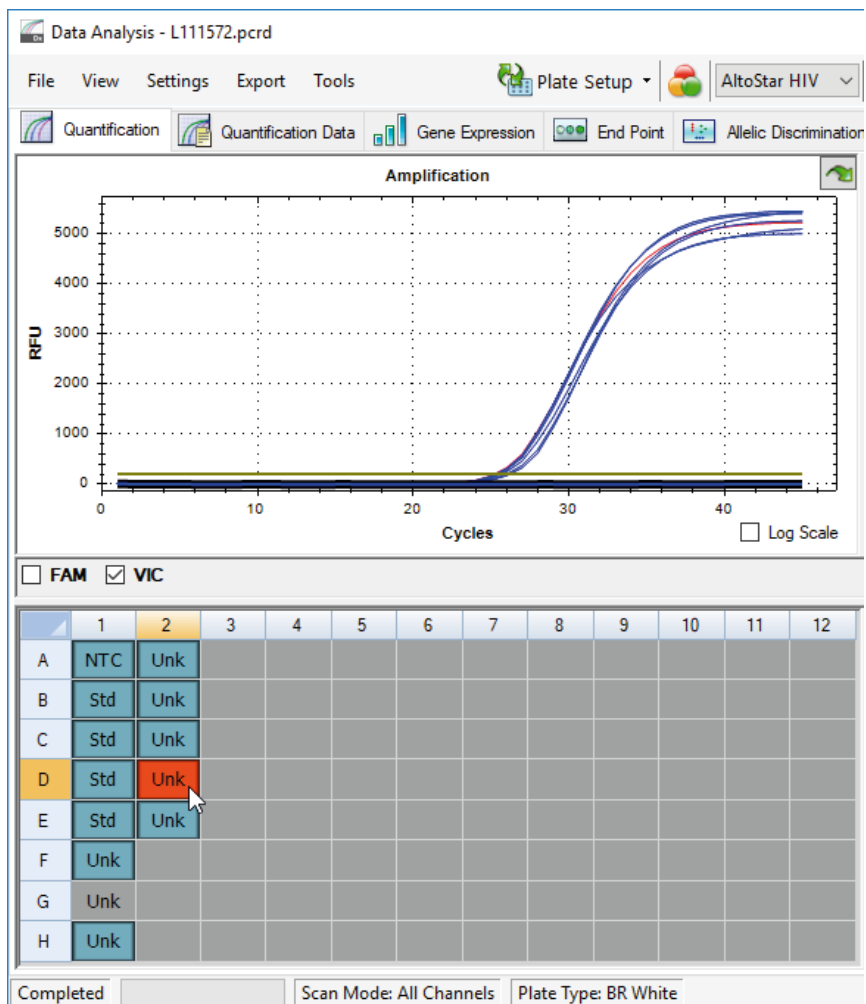

Figure 11: Data Analysis window: invalid well
3. Click each well containing invalid data according to chapters 7.6.8.2 Validity of a diagnostic PCR run to 7.6.8.3 Validity of results for a sample with the right mouse button and select **Well...** → **Exclude from Analysis** (see figures 11 and 12).